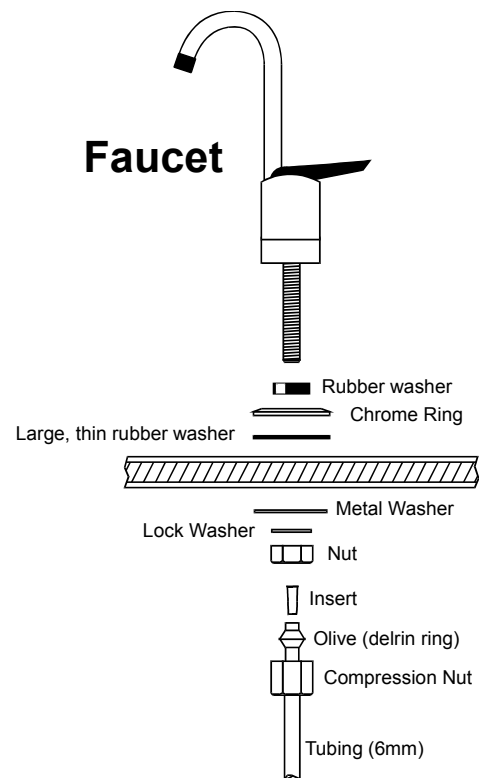
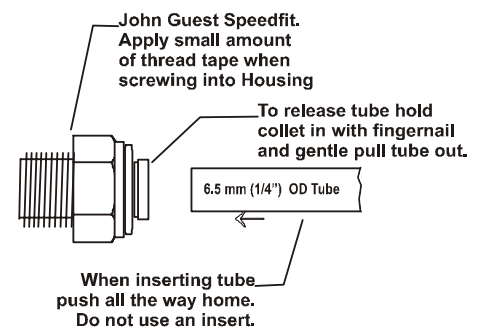

Figure 2
Figure 3
- Assemble faucet in position as shown in Figure 2
- Cut an appropriate length of tube to connect to the faucet. Slide the compression nut onto the tubing followed by a plastic delrin ring and then insert the brass or plastic insert (Figure 2). Push tube into faucet and tighten nut. Attach the other end of the tube to either outlet of the UV by pushing the tube into a John Guest Speedfit (Figure 3).